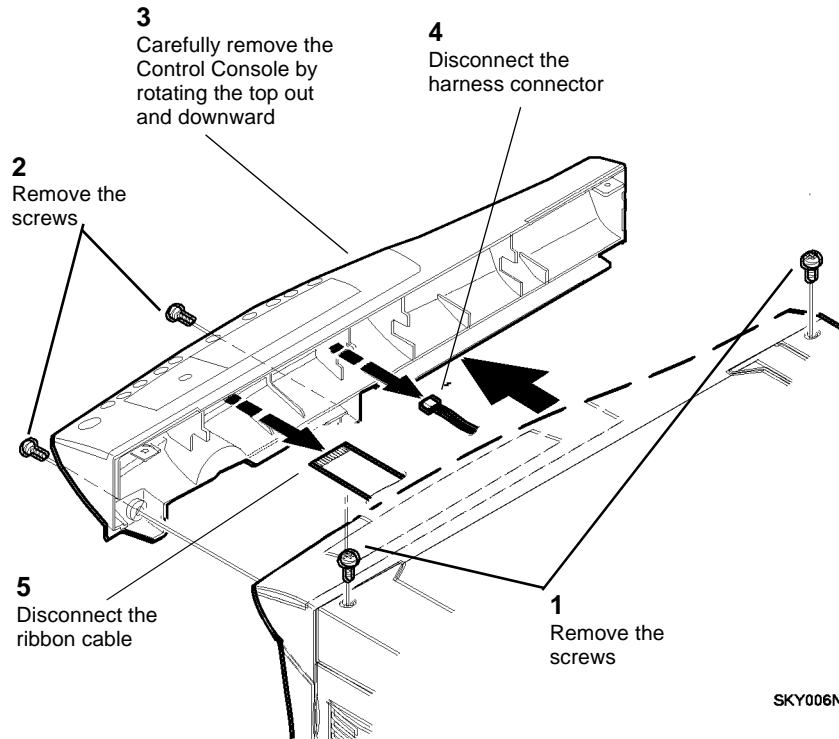

Figure 1 Removing the Control Console
2. (Figure 1): Remove the Control Console.